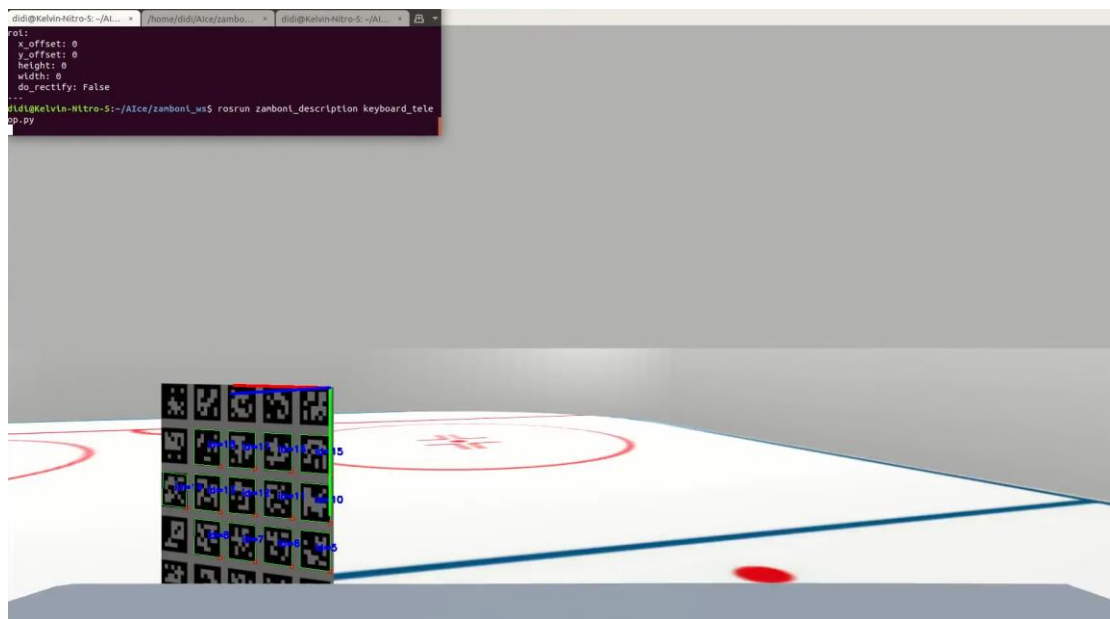

Figure 2. Pose Estimation of ArUco Board using D435i
blocked or blurred markers based on the ones that can be clearly seen); (2) the obtained pose would be much more accurate due to a higher amount of point correspondences (marker corners) compared to individual markers. For example, as shown in Figure 2, the algorithm only detects 12 markers correctly (the one in the third row and the first column is a postprocessed, refined one using the detected markers locations), but it still gives an accurate pose estimation, i.e. the xyz axis drawn on the top right corner of the board. The pose estimation algorithm works as follows: it first detects individual marker in the camera image, extracts the locations of each detected marker's corners, (optional) infers those undetected markers nearby using the detected corners, and finally estimates the rotation and translation vector from the board frame to the camera frame based on the given camera intrinsics and distortion coefficients. The norm of the translation vector can actually tell how far the camera is from the top right corner of the board, while the rotation vector (in axis angle) can tell the pose of the leader Zamboni relative to the follower as long as the ArUco board is attached to the rear of the leader.